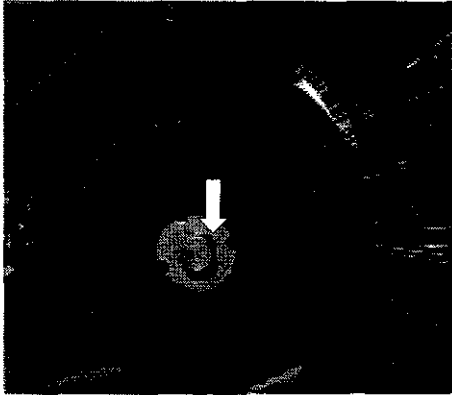

figure 18
5. Remove the snap ring from the large sprocket (figure 18).